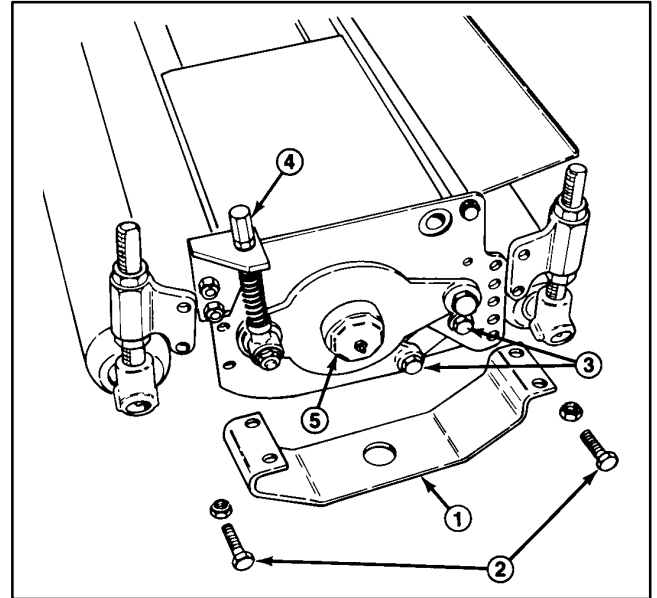

Figure 19
1. Remove the guards from each end of the cutting unit and the front and rear roller assemblies (Fig. 19).
11. To remove the bearing and seal from the bearing housing, remove the dust cap (Fig. 19) and press the bearing and seal out of the housing.